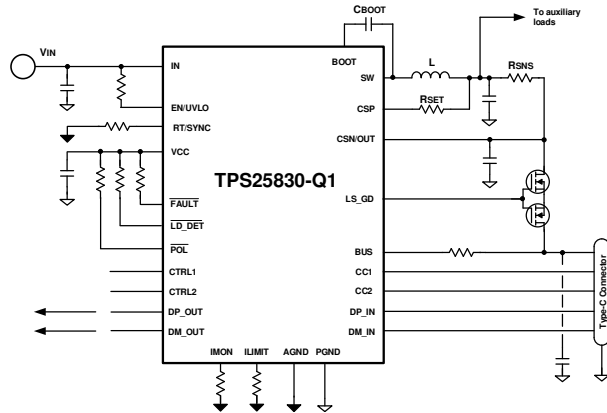
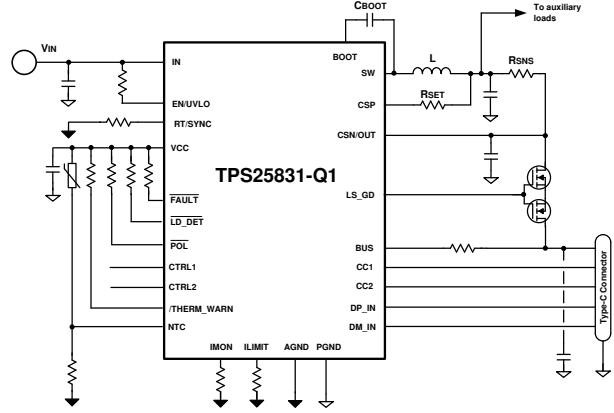

图 10-16. TPS25830-Q1 Current Limit with External MOSFET
图 10-17. TPS25831-Q1 Current Limit with External MOSFET
- With external MOSFET 图 10-16, 图 10-17:
The TPS2583x-Q1 has integrated NFET gate drivers, and can support current limit with external NFET. Refer to 图 10-16.